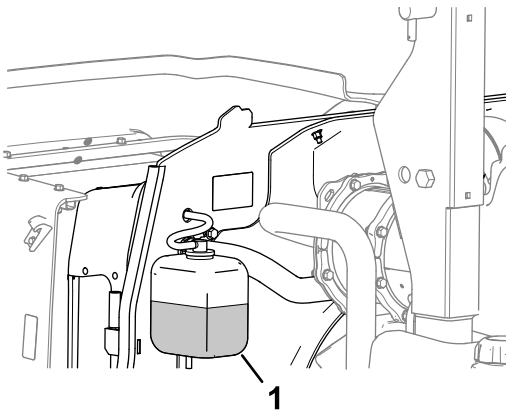

Figure 66
1. Check the level of coolant in the expansion tank (Figure 66).